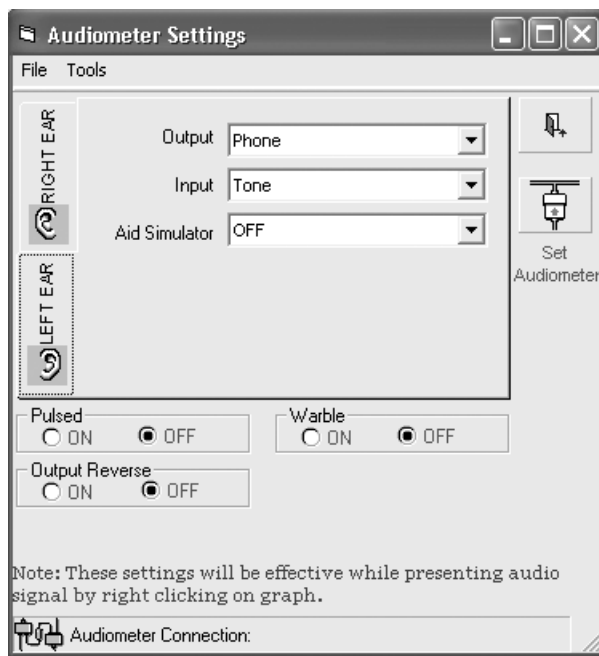

Figure 5.2.4—Audiometer Control Panel
1. (optional) Open the **Settings** menu, point to **Audiometer Settings**, and select **Audiometer Control Panel**. See Figure 5.2.4.